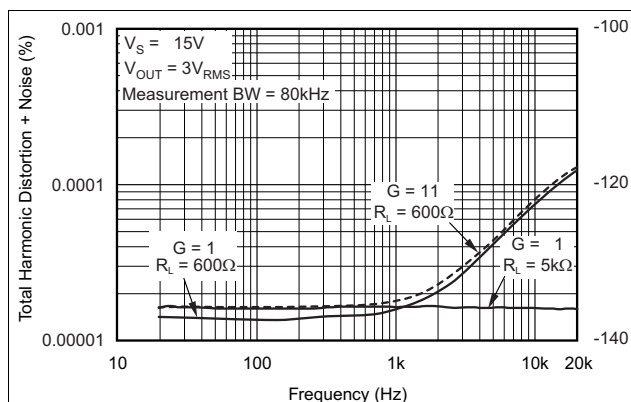

Figure 43. THD+N Ratio vs Frequency
(1) For measurement bandwidth, see Figure 43, Figure 44, and Figure 45.